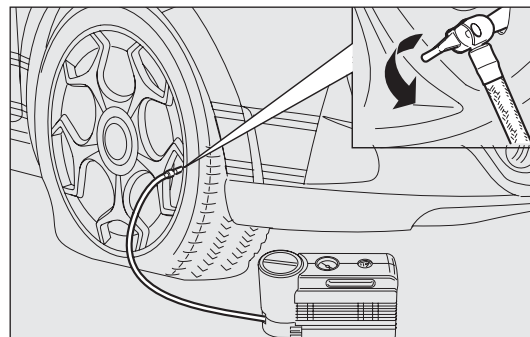

fig. 132
- after driving for about 10 minutes, stop and check the tyre pressure fig. 132 again; remember to put the handbrake on;